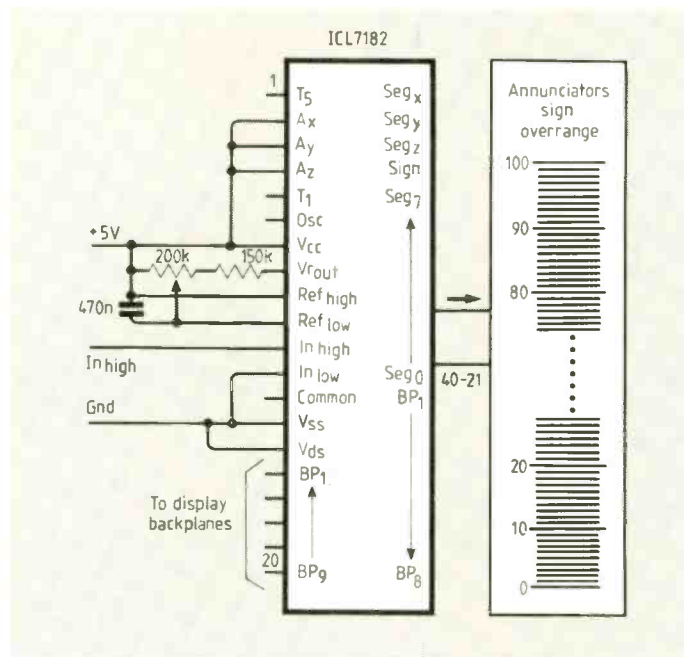

Fig.5. ICL 7182 with bargraph indicator.
**ICL7182**. This uses a multiple backplane duplex drive to give 101 segments with polarity, over-range and three user-selectable segment inputs. Figure 5 shows the arrangement.